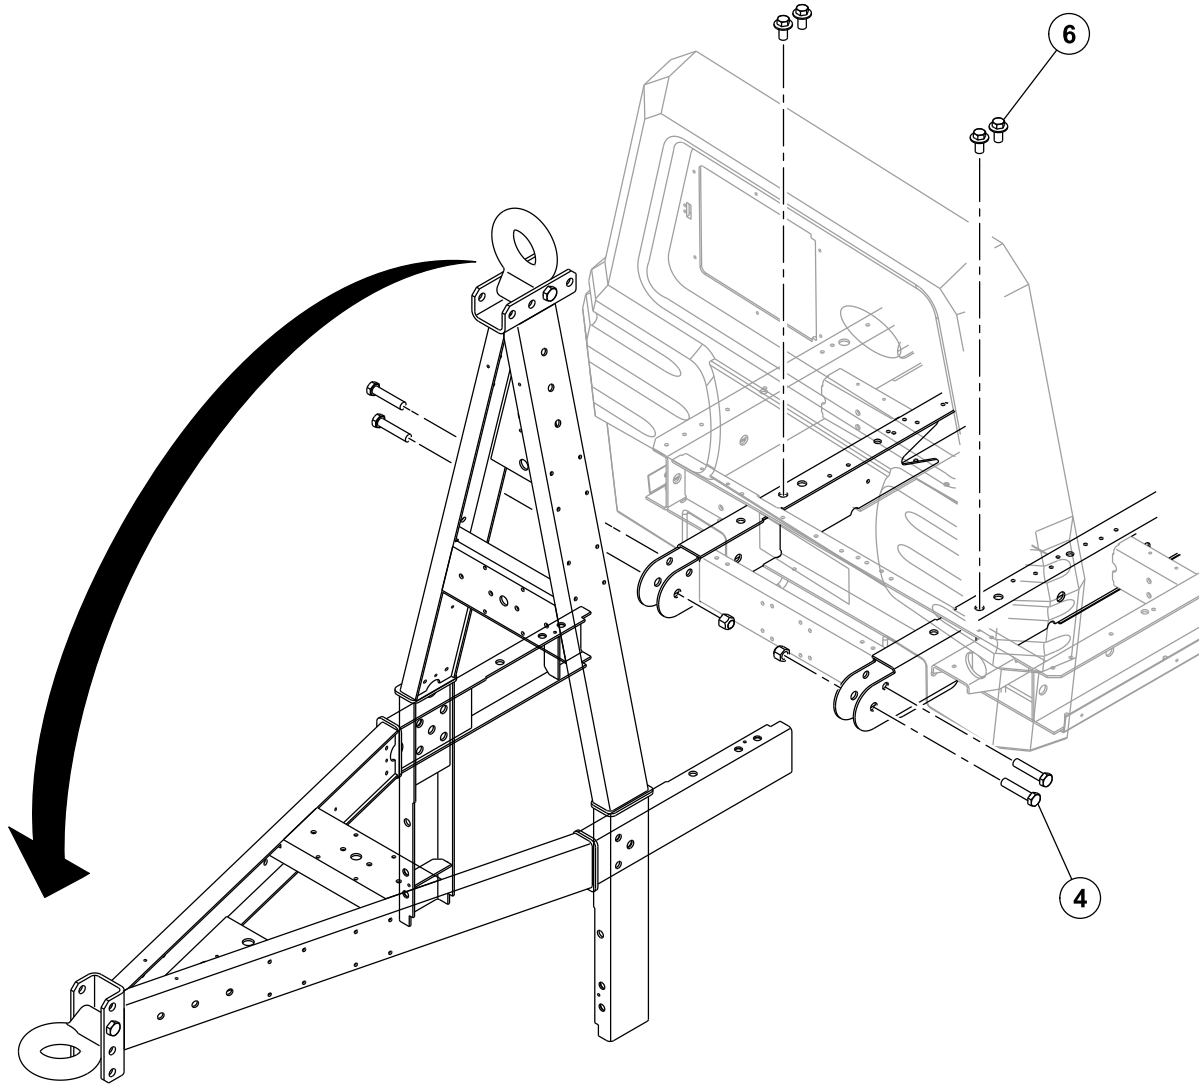

FIGURE 1: DRAWBAR POSITION
4. Remove the temporary retaining bolts from both sides of the frame at the drawbar connection and discard (see figure 1).
6. Install the four bolts (with pre-applied thread lock) to the four points inside the enclosure and torque to **68 pounds (92.2 newton-meters)** (See Figure 1).